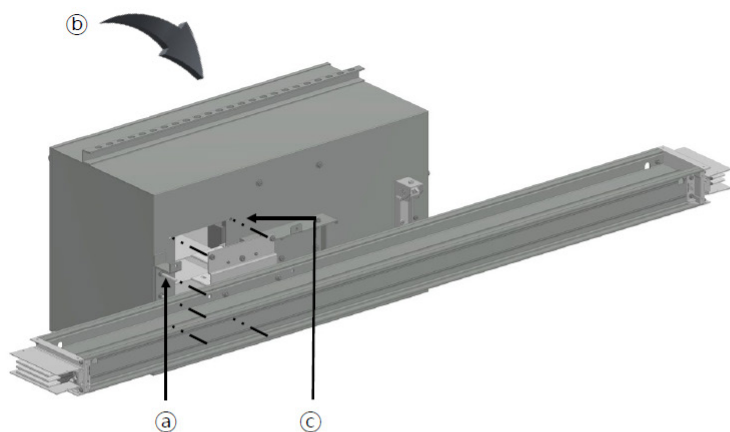

Figure 37. Mounting
1. Insert the guide pins into the guide pin holes of the busway to align the position. (Figure 37, a)
2. Use the guide pins as support points and press the rear side of the bolt-on unit. (Figure 37, b)
3. Assemble the flange of the bolt-on protection box and the enclosure of the bolt-on unit with four pair of the bolts. (Figure 37, c)